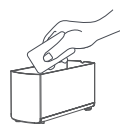

Figure 23
- 5.5 Add a small amount of water and detergent to the side tank base, use a sponge to clean it, and rinse well (see Figure 23).